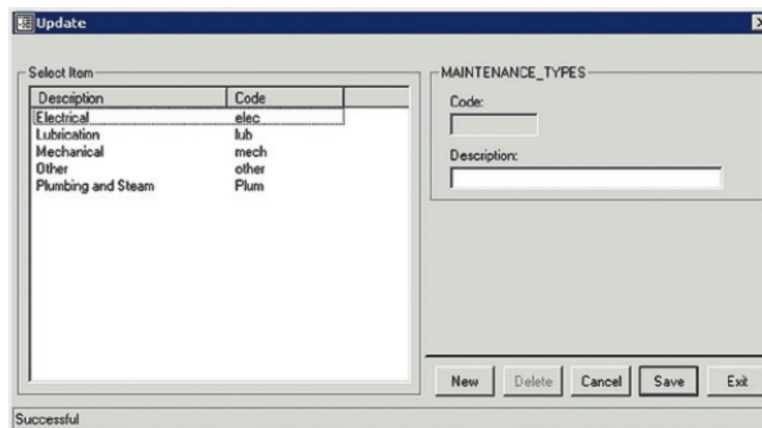

Figure 26. Maintenance Types dialog.
2. Click **New** on the *Maintenance Types* dialog (see Figure 26).